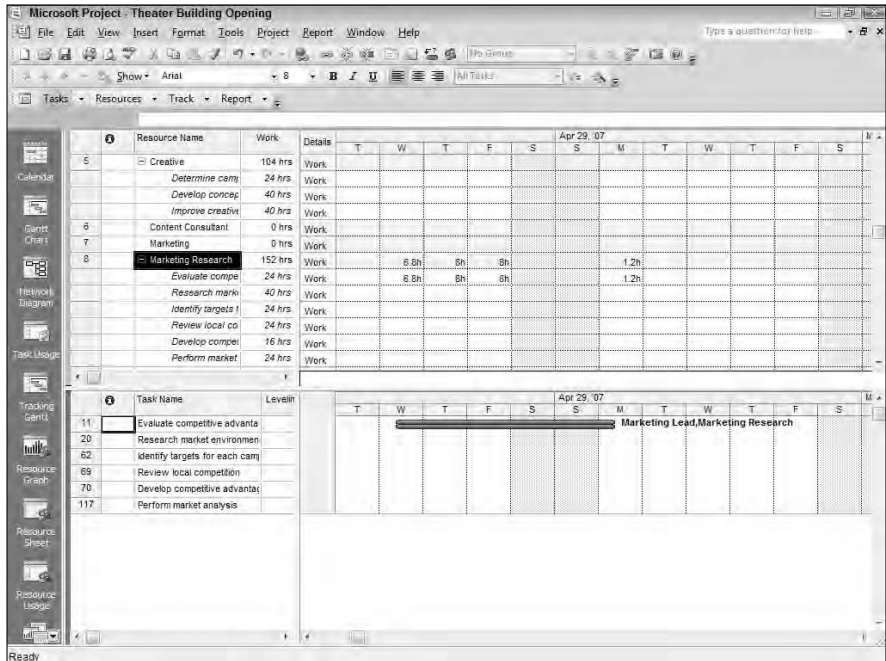

Figure 3-9:
- ◆ **Resource Allocation** is a combination view (see Figure 3-9) that allows you to view all the tasks to which a resource is assigned, both as a work hours listing at the top and a Gantt chart with task bars on the bottom. This helps you see both workload and task timing within your schedule, simultaneously, so you can resolve resource conflicts or fine-tune assignments.